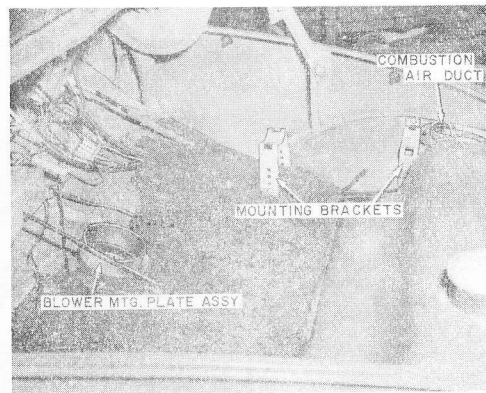

FIGURE 10
3. It must be remembered that at this point the mounting brackets for the heater assembly (See Figure 10 and 11) must be installed and the heater assembly laid in the brackets to assure the accuracy of the two holes in items (b) and (c).